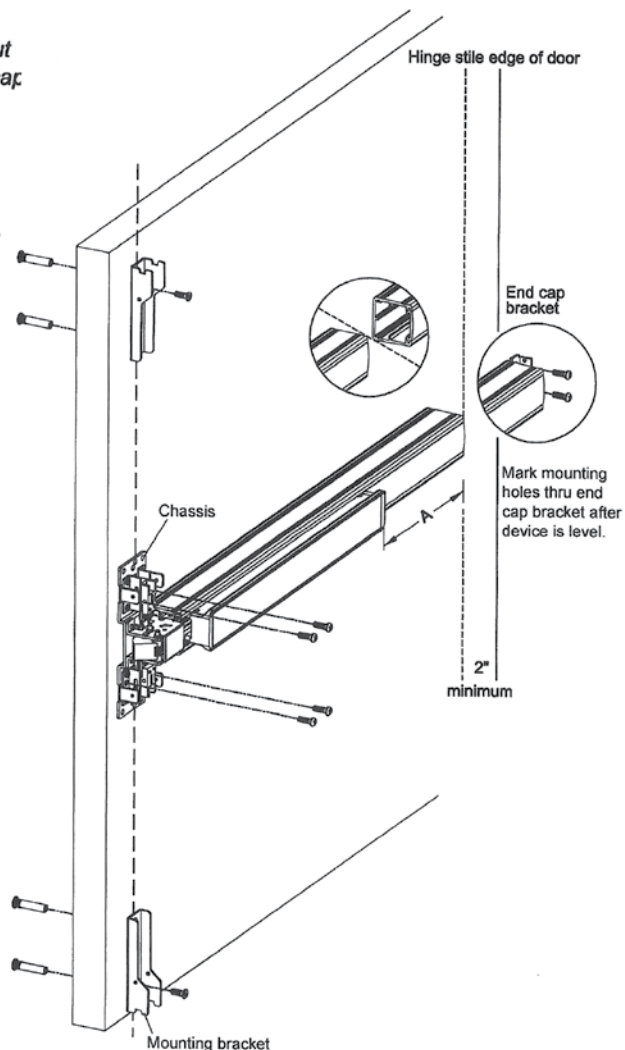

Figure 2
6. Remove top and bottom latch covers and mounting brackets from both top and bottom latch assemblies. Install two latch mounting brackets on top and bottom of the door (see Figure 2).